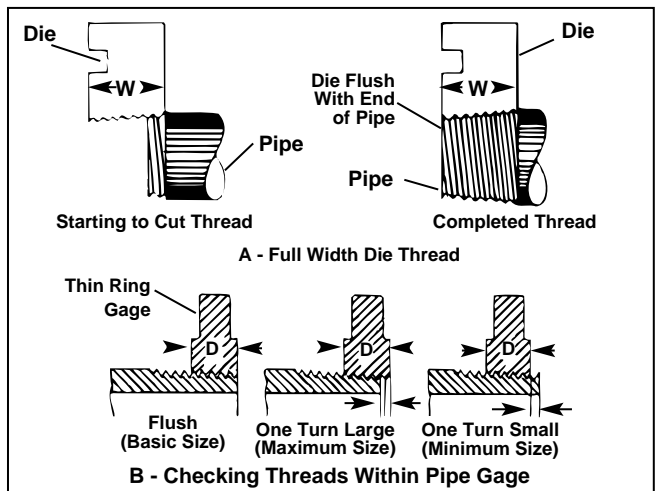

Figure 13 – Checking Thread Length and Depth
10. Check the thread length and depth. (Figure 13)
(See Figure 13)